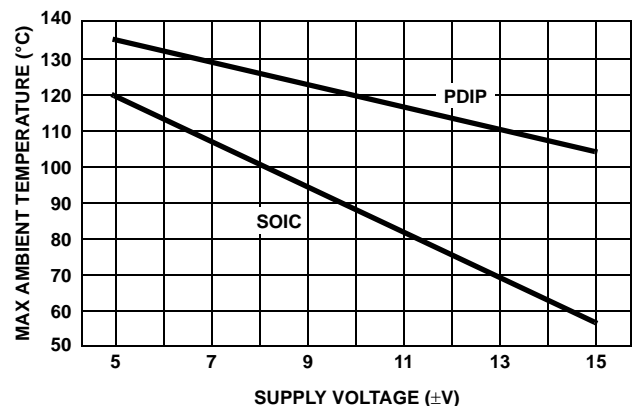

**FIGURE 6. PLACEMENT OF THE OUTPUT ISOLATION RESISTOR, R**
Capacitive loads will degrade the amplifier's phase margin resulting in frequency response peaking and possible oscillations. In most cases the oscillation can be avoided by placing an isolation resistor (R) in series with the output as shown in Figure 6.